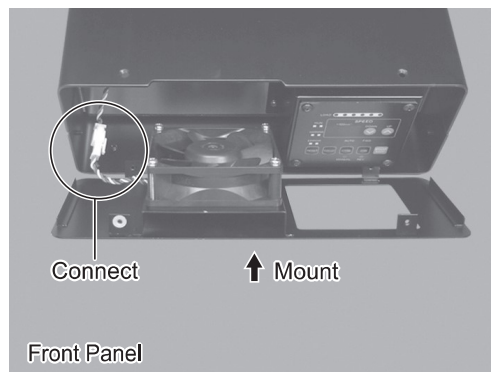

Fig. 47
- (11) Connect the FAN Cord Connector (Fig. 47).
- (12) Re-attach the Front Panel to the CONTROLLER's Main Body (Fig. 47).